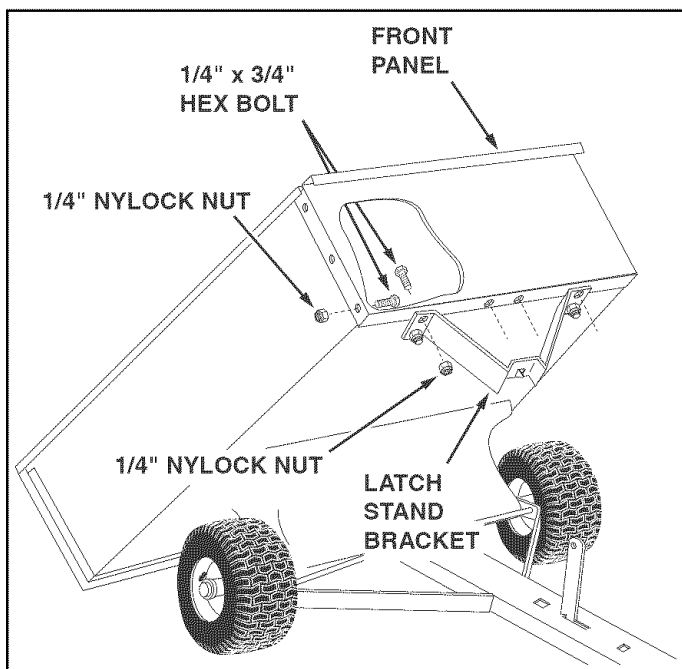

FIGURE 9
- Release the latch lock lever and tilt the cart bed back. See figure 9.
- Assemble the front panel to the cart, sliding the bottom lip of the panel between the cart and the latch stand bracket. Secure with six 1/4" x 3/4" hex bolts and 1/4" nylock nuts. Leave the upper holes on the sides empty. **Do not tighten yet.** See figure 9.